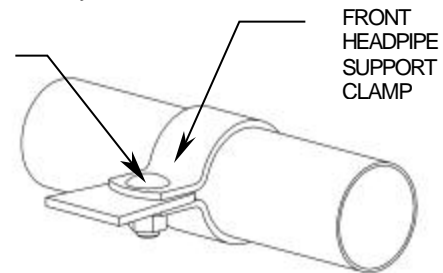

FIGURE 2
10. Slide the tube clamp over the headpipe support bracket installed in step 5 capturing the mount on both sides, see Figure 2. Insert the supplied 3/8 carriage head bolt from top to bottom through the clamp, washer and into the locknut but **DO NOT TIGHTEN** at this time.